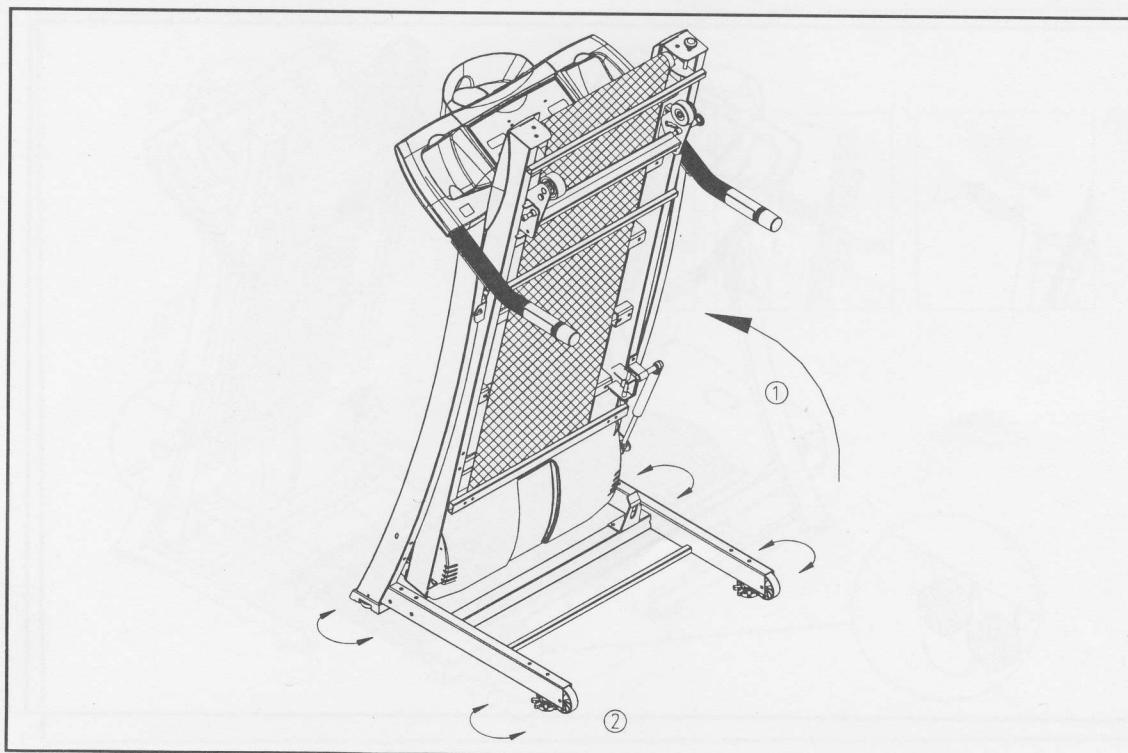

Fig.14
1. If the treadmill is unsteady on your floor, lift the treadmill bed to its upright/folded position. Then, turn the floor level adjustments located on bottom post bracket to proper height to steady your treadmill. (See Fig. 14)